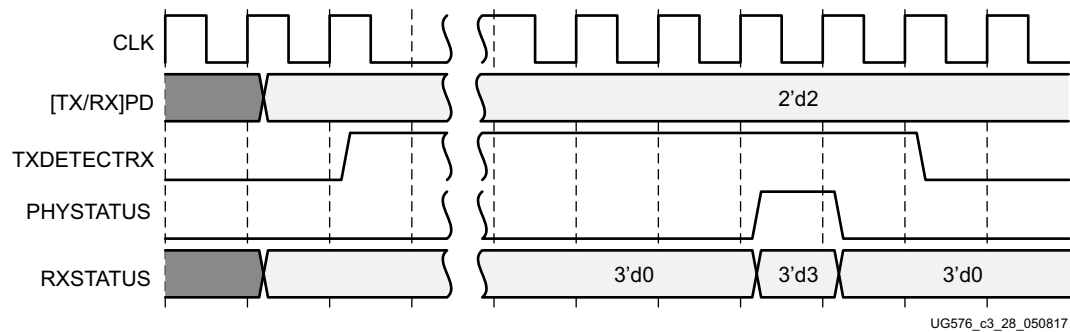

Figure 3-34: PCI Express Receiver Detection
While in the P1 power state, the GTH transceiver can be instructed to perform a receiver detection operation to determine if there is a receiver at the other end of the link. Figure 3-34 shows an example use mode on how to perform receiver detection in PCI Express mode.
**Note:** Figure 3-34 shows the sequence of events for the receiver present case and is not drawn to scale.
Notes relevant to Figure 3-34: